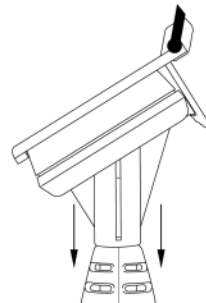

FIGURE 7
3. Slide Utility Attachment Head with attached Squeegee/Large Utility Brush onto Steam Jet Nozzle as illustrated (FIGURE 7).